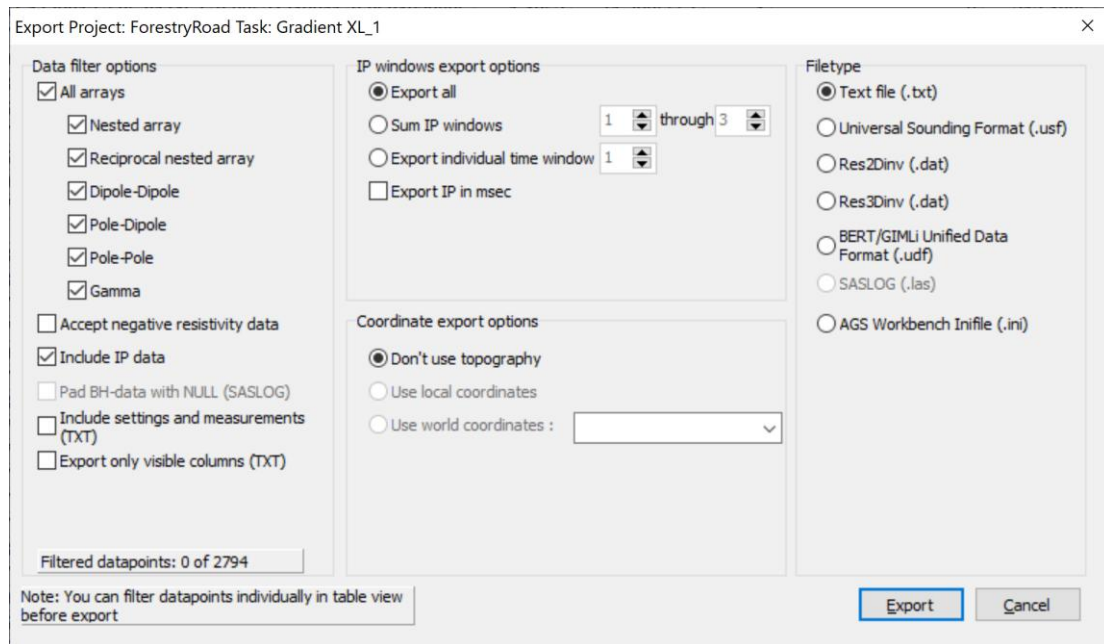

Figure 108 LS Toolbox export window
- Export data to a number of different formats (“Export...”, see Figure 108)